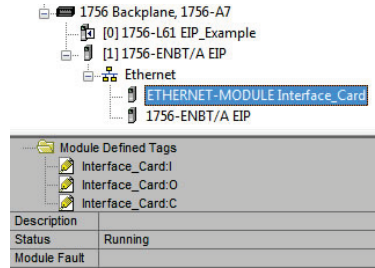

Figure 55: Online Module Status
- 7) Switch to online mode and download the project to the PLC. Verify that the newly-added inverter is available and operating correctly by observing any indications shown on the inverter’s icon. When the inverter’s icon is selected, its status and any available error messages will be displayed in the area below the project tree. Refer to Figure 55. Also confirm that the interface card’s “Network Status” LED should be solid green, indicating an “online/connected” state.